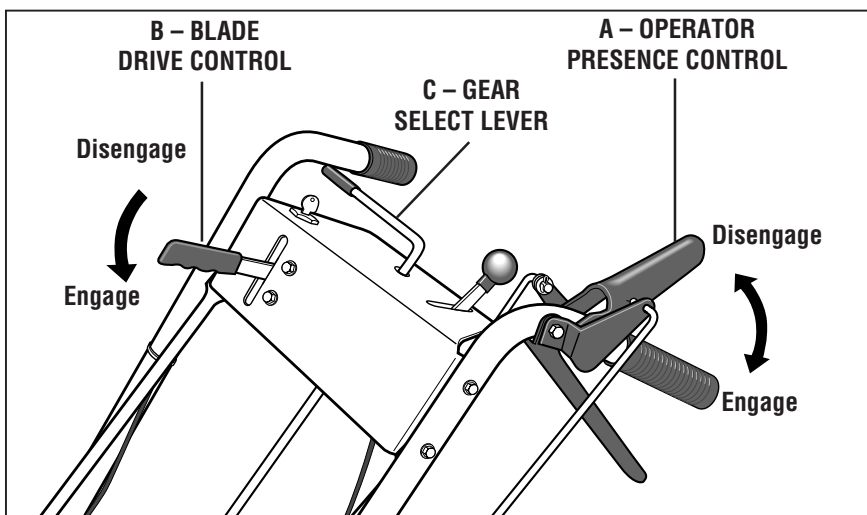
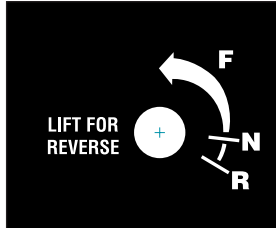

Figure 3-1
Figure 3-2:
The Operator Presence Control lever (A, Figure 3-1) regulates the operation of the rear wheel brake and the separate Blade Drive Control. Always engage this control before engaging the separate blade drive or wheel drive controls. Always disengage this control before starting the engine.
Use this lever (B, Figure 3-1) to engage drive to the mower blades.
To engage the blades, first engage the Operator Presence Control (A, Figure 3-1). Then, push the spring-loaded Blade Drive Control lever (B) forward until it stays in the engaged position.
Use this lever (C, Figure 3-1) to select any of four forward ground speeds (1 - Slow, 2 and 3 - Medium, 4 - Fast), N (Neutral) and R (Reverse). The gear shift pattern is shown in Figure 3-2.